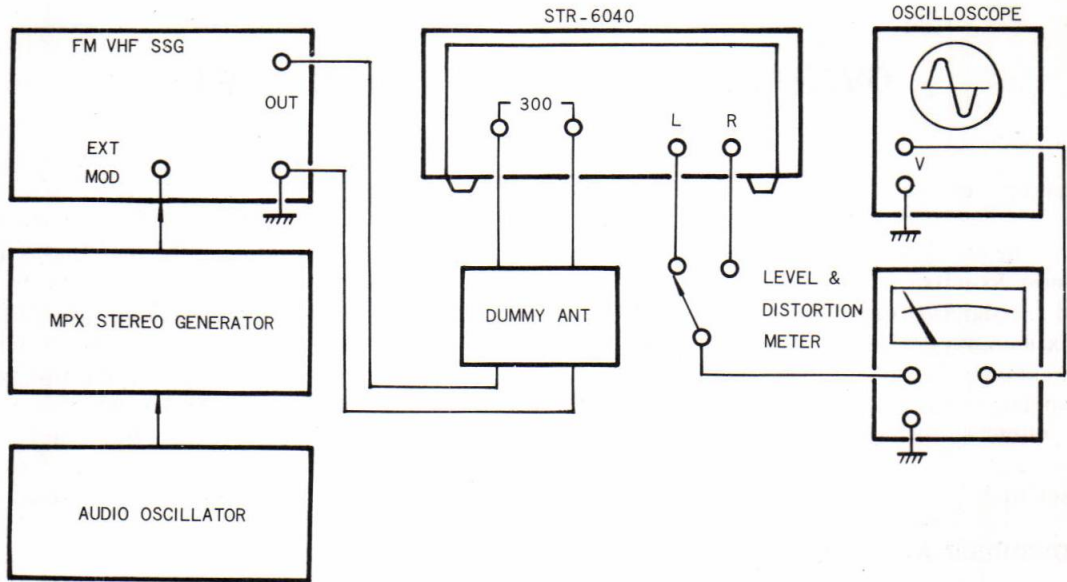

Fig. 4-3 Overall adjustment test set-up
1. Connect the equipment as shown in Fig. 4-3.
1. Connect the equipment as shown in Fig. 4-3, set the fm signal generator's controls as follows:
- (a) With the equipment connected as shown in Fig. 4-3, set the multiplex stereo generator controls as follows:
1. With the equipment connected as shown in Fig. 4-3, set the signal generator and receiver's controls to the positions described in the Procedure 4-2 "FM STEREO DISTORTION."
1. Connect the signal generator to the antenna terminals of the receiver using a dummy antenna. See Fig. 4-3.